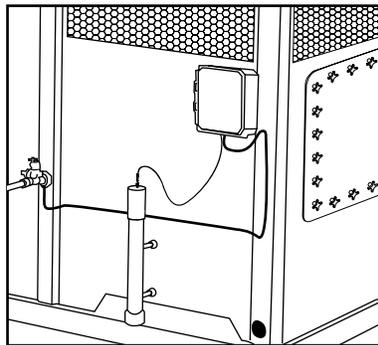
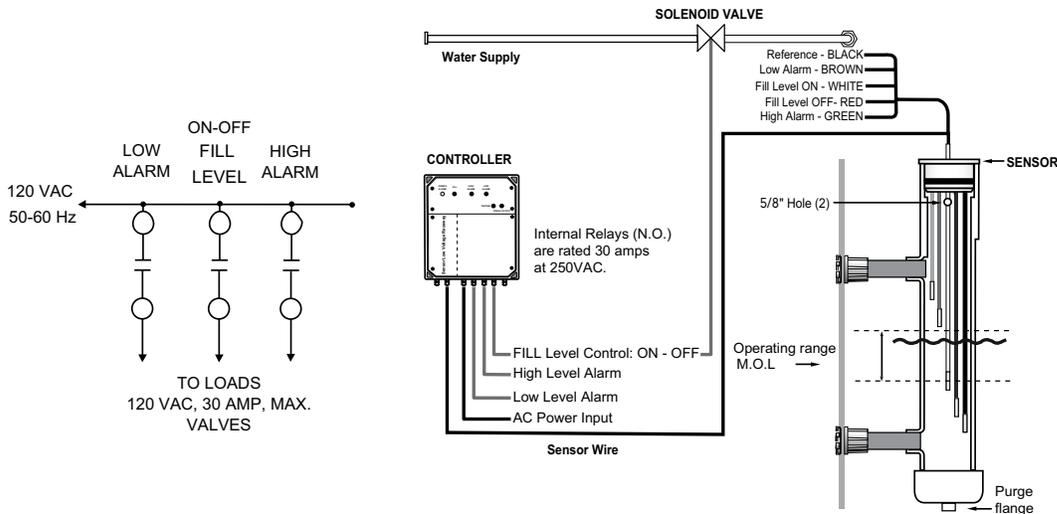

Figure A-58: Electrical Water level control system
Figure A-59: Electrical Connections & Water Level Control Parts
Electric water level control system is an optional accessory offered by REYMSA includes water level controller, stilling chamber, and solenoid valve for water make up (see Figure A-58 & Figure A-59).
2. The sensor assembly (Figure A-59) must be made so that the end of the PVC pipe is below the minimum level of water to be maintained.